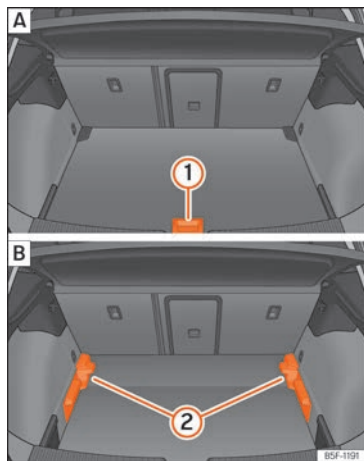

Fig. 129 Variable luggage compartment floor:
- To move from the low position to the high position, lift the floor using the handle »» Fig. 129 **1**, and pull it back until the front of the floor has fully passed the supports »» Fig. 129 **2**.
- To move from the high position to the low position, lift the floor using the handle »» Fig. 129 **1**, and pull it back until the front of the floor has fully passed the supports »» Fig. 129 **2**.
- Lift the variable floor in the high position using handle »» Fig. 129 **1**, pull it up and push it towards the backrest of the rear seats until it folds along the hinge line and the movable part of the floor is resting on itself.